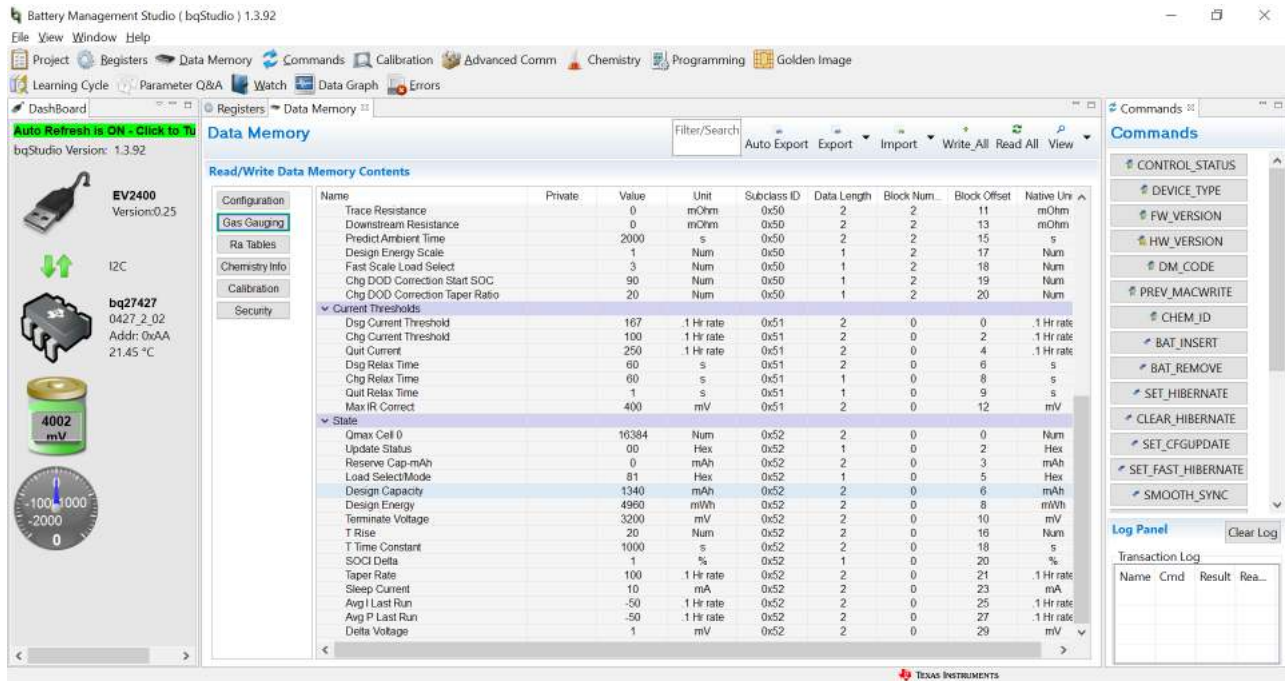

Figure 7-3. Data Memory Screen
**IMPORTANT:** The correct setting of these options is essential to get the best performance. The settings can be configured using the Data Memory screen (Figure 7-3).